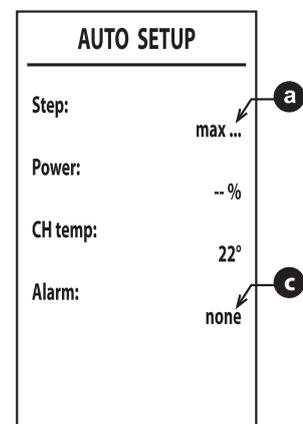

fig. 48 -
6. After ignition, the burner is positioned at the various powers (max, med, min) indicated by the point  ("fig. 48 -").
8. If the ignition sequence described in point "6" is not successful, the message max_err will appear at point  and an error code at point  ("fig. 48 -").